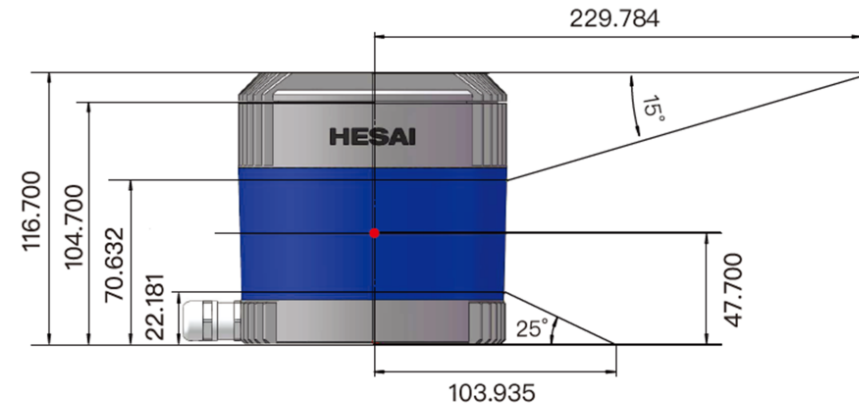

Figure 5. Laser firing position (unit: mm)
- The origin's exact position is shown in Figure 5 as a red dot. All measurements are relative to the origin.